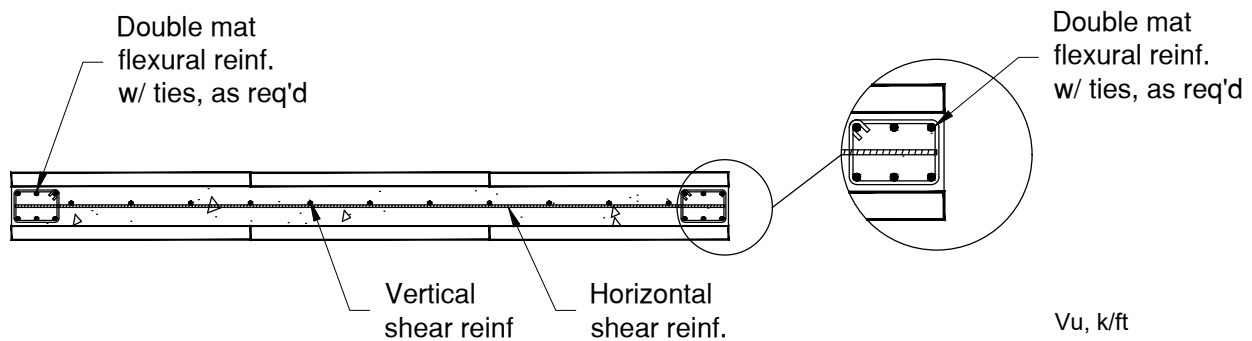
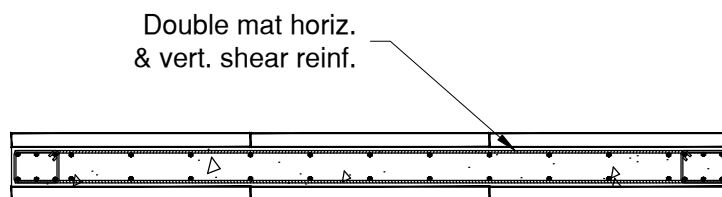

FIGURE 7: PLAN VIEW
FIGURE 8: PLAN VIEW
2. Provide double mat of reinforcement for 12" Element wall. See Figure 8.
- Where more than one bar is shown use double mat for flexural reinforcement. See Figure 7 (or Figure 8 for 12" Element).